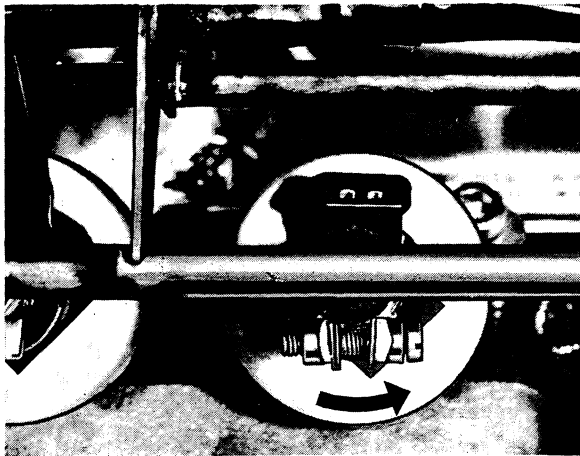

Fig. 2-95. Removing an injector
2. Turn the lock ring, Fig. 2-95, anti-clockwise so that it loosens from the bayonet fitting. Pull out the injector.